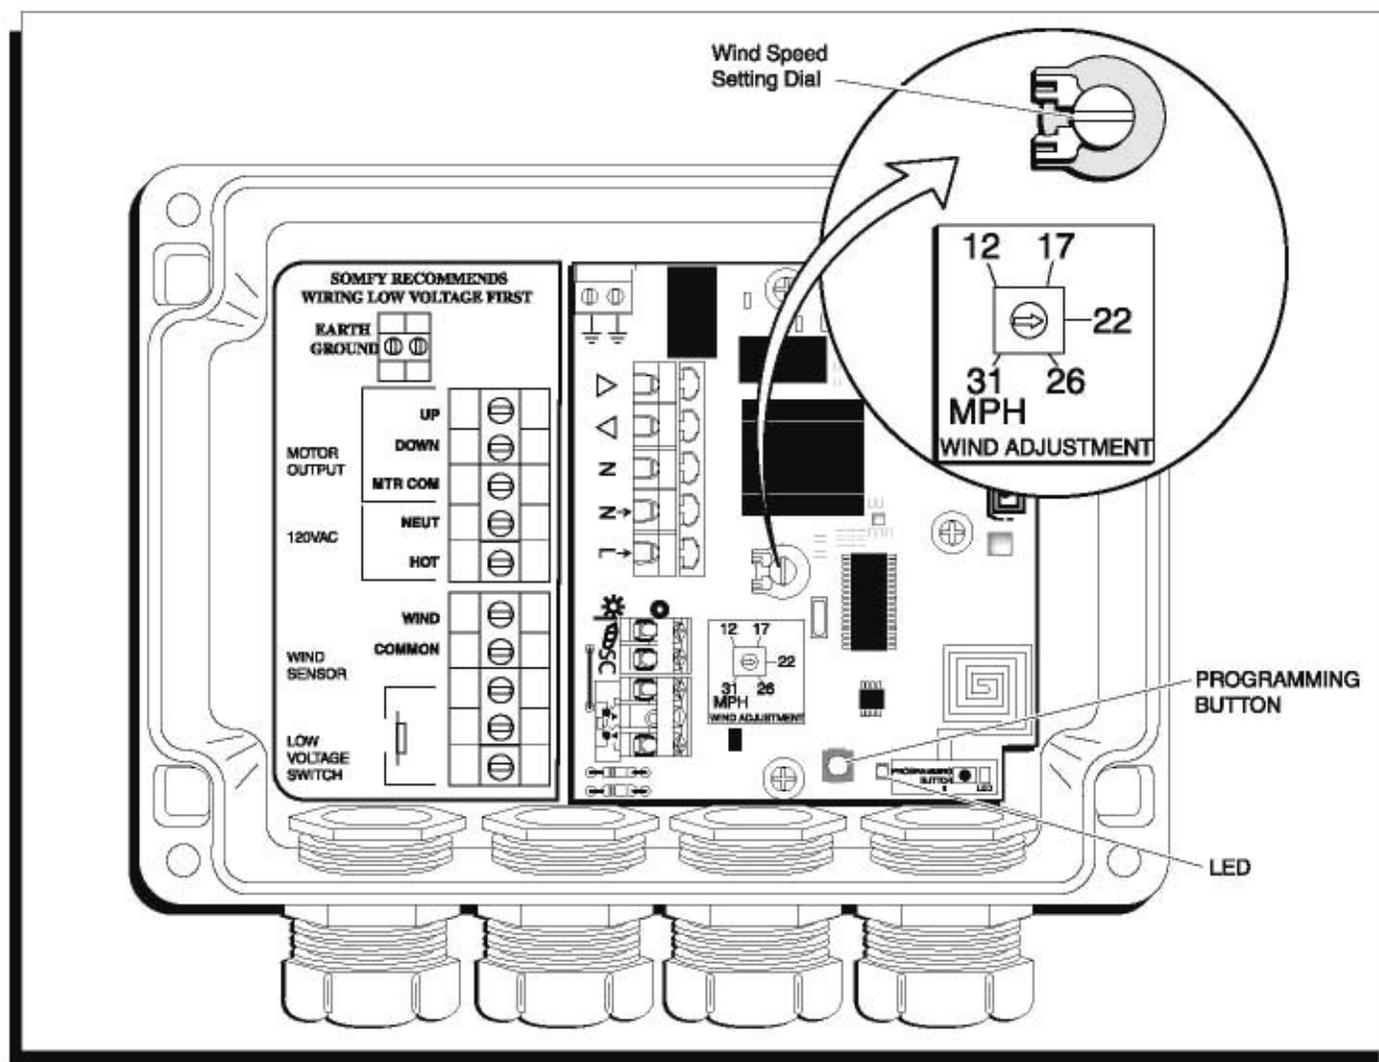

FIGURE 33
- While cover is off control box, take specific note of wind speed setting (Fig. 33 callout, "Wind Adjustment"). The arrow should be pointing at the 3:00 position (factory pre-set at 22 mph). To adjust the pre-set wind speed, rotate the dial to the preferred setting. The minimum setting is 12 mph; maximum setting is 31 mph. GIRARD SYSTEMS STRONGLY RECOMMENDS NOT SETTING THE DIAL OVER 26 MPH. DISREGARDING THIS WARNING MAY VOID WARRANTY.